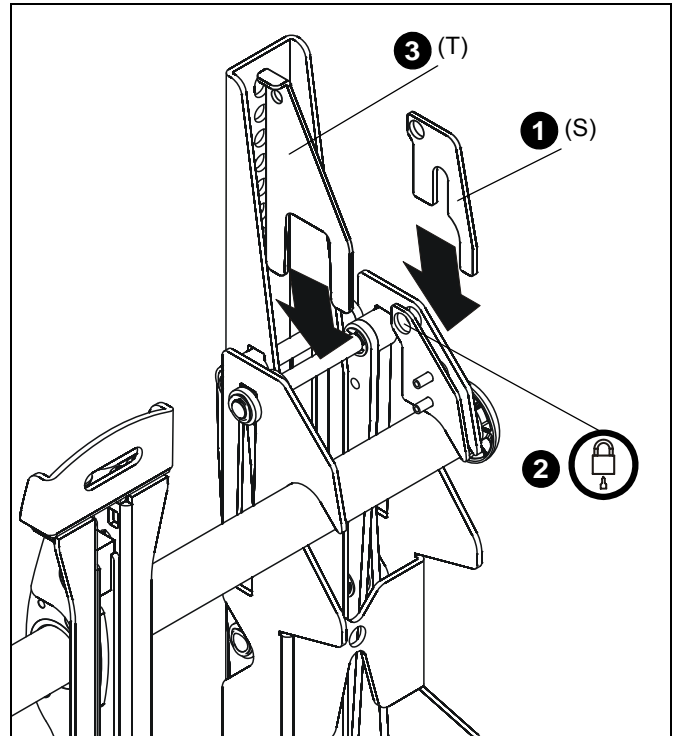

Figure 14
1. Add security bracket (S) to the mount. (See Figure 14)
2. Add padlock (not included) through holes on small security bracket (S) and mount.
3. Add hold-back bracket (T) to the mount to secure mount in recessed position. (See Figure 14)